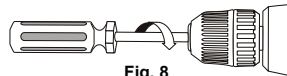

Fig. 8
- Remove the chuck screw using a #2  screwdriver (Fig. 8). **NOTE:** Turn the screw **CLOCKWISE** to remove it. This screw has a left-handed thread.